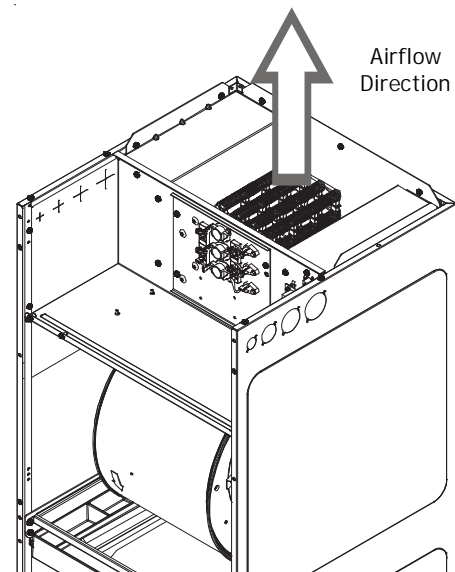

Figure 1
4. Slide the electric heat kit into the opening in the air handler, making sure the direction of airflow decal attached to the electric heat face plate is pointing in the correct direction, and secure the electric heat face plate using the screws removed in Step 2. Use caution to not bend or damage the electric heating elements, the limit switches or fuses during this process. See Figure 1.